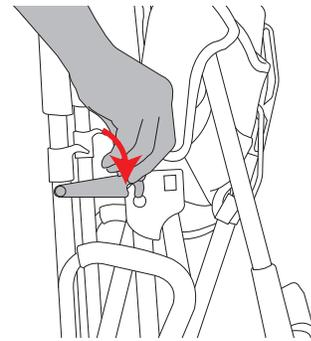

Figure 29
- Secure the stroller in the folded position by engaging the locking latch on the right side of the stroller over the extended rivet. See Figure 29.